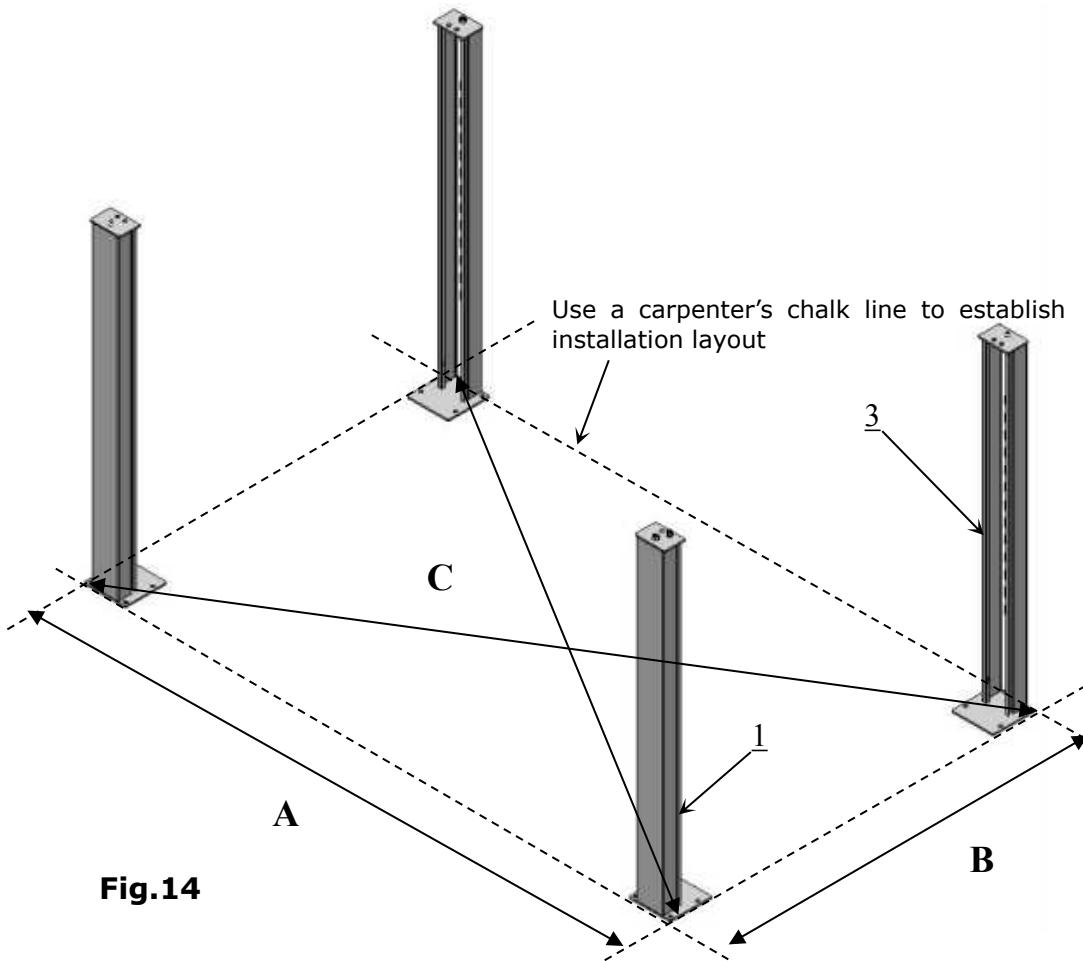

Fig.14
C. Use a carpenter's chalk line to establish installation layout (see Fig 14).